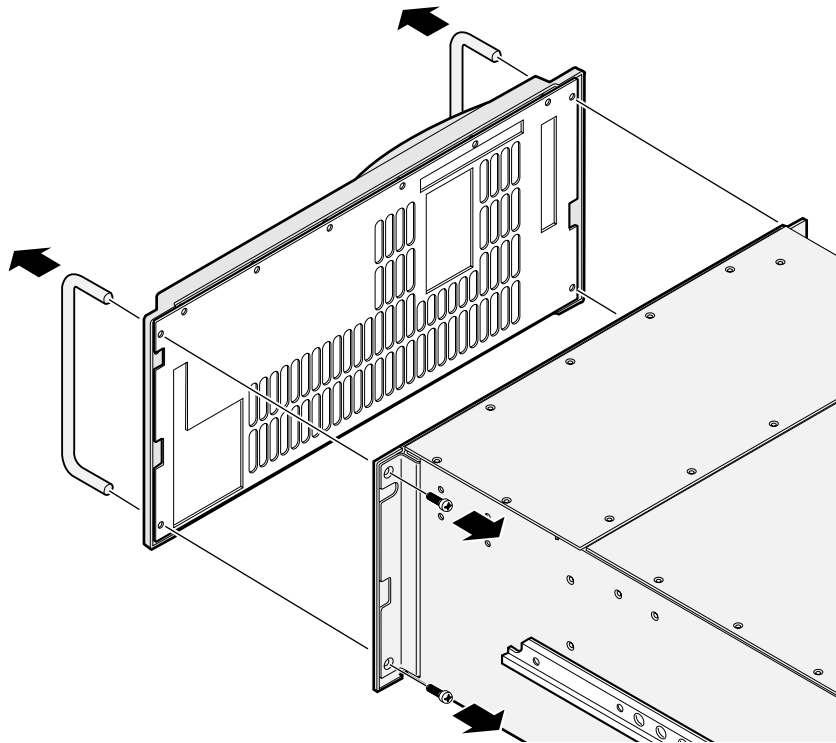

Figure 26. Removing the Front Panel and Bezel
Figure 26 shows removal of the front panel and bezel.
1. Refer to Figure 26 and remove the PDR 100 handles (❶ in Figure 26) and front panel metal plate (❷ in Figure 26) to access the two cables on the bezel.
3. Refer to Figure 26 and reinstall the front panel metal plate, bezel, and handles.